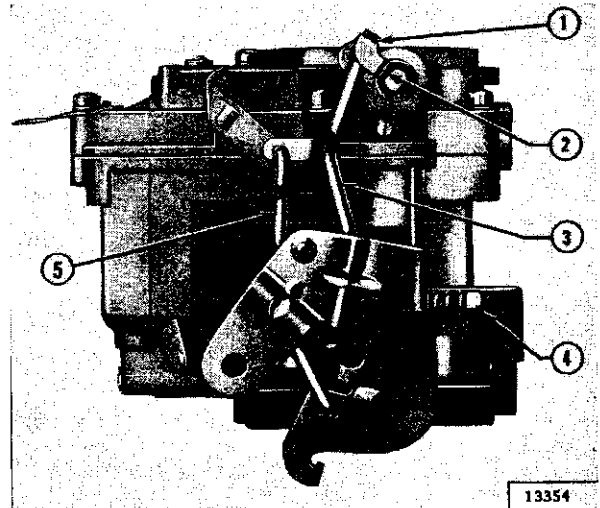

FIG. E-25—CHOKE LINKAGE—INSTALLED VIEW
m. Install choke rod into choke lever and fast-idle cam. Install fast-idle cam screw and tighten securely. See Fig. E-25 for proper installation.